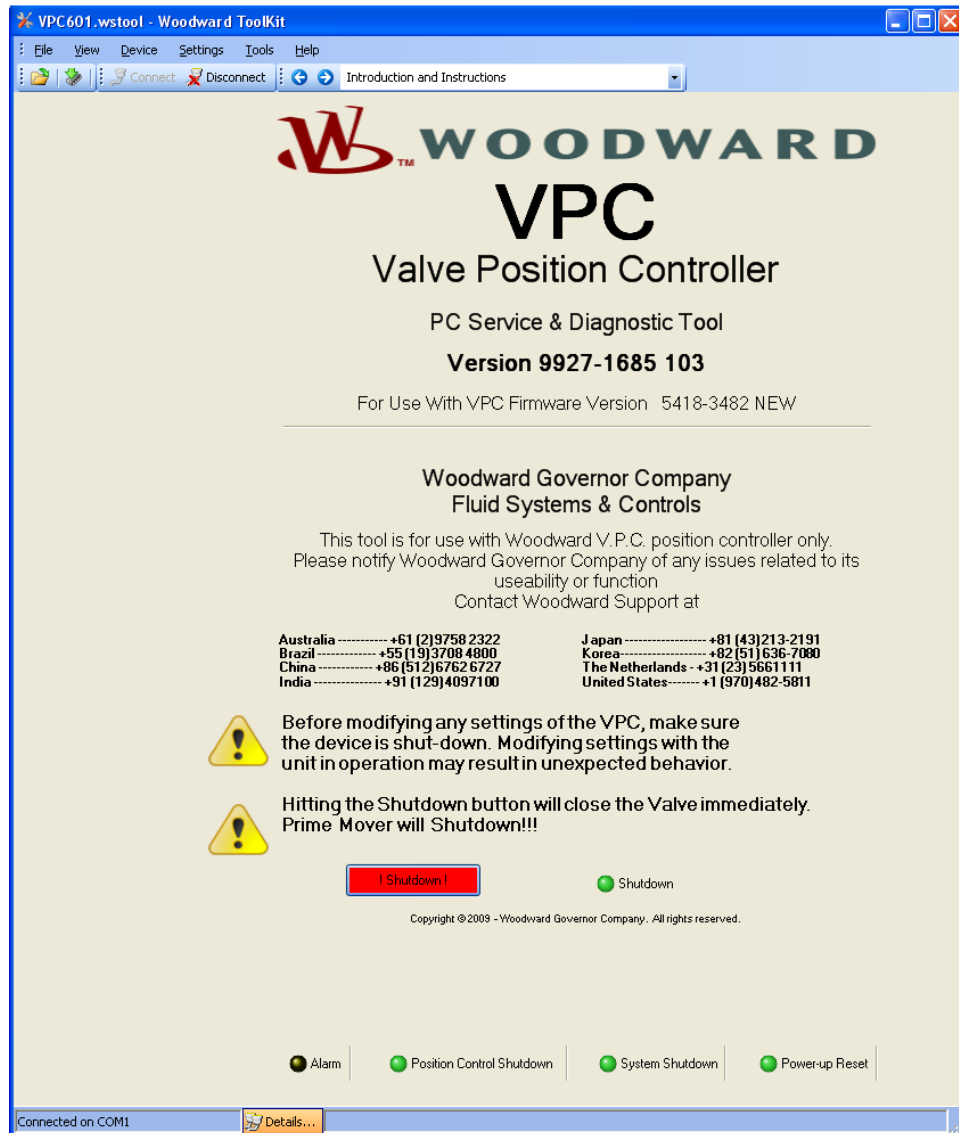

Figure 4-6. Introduction and Instruction Screen
This VPC Service Tool introduction page contains important information of the tool version and GS6 firmware. It provides information to contact Woodward Technical Support for assistance. Status LEDs and Shutdown button are also provided on this page (Figure 4-6).
**Introduction and Instructions**—Displays the status of tool and support information (Figure 4-6).